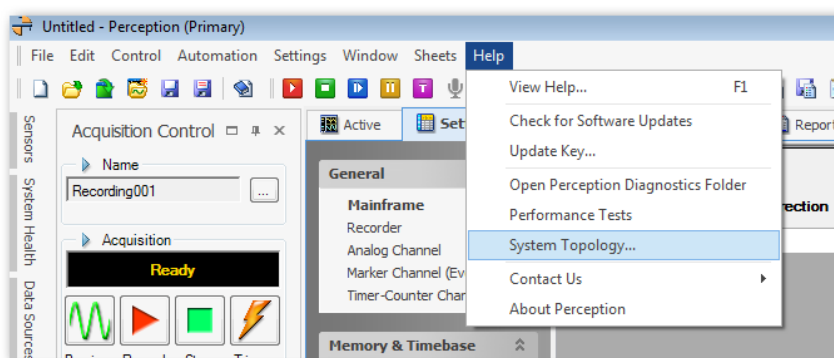

Figure 14.20: System Topology Help
- 1 In the menu bar choose **Help ► System Topology** (see Figure 14.20).